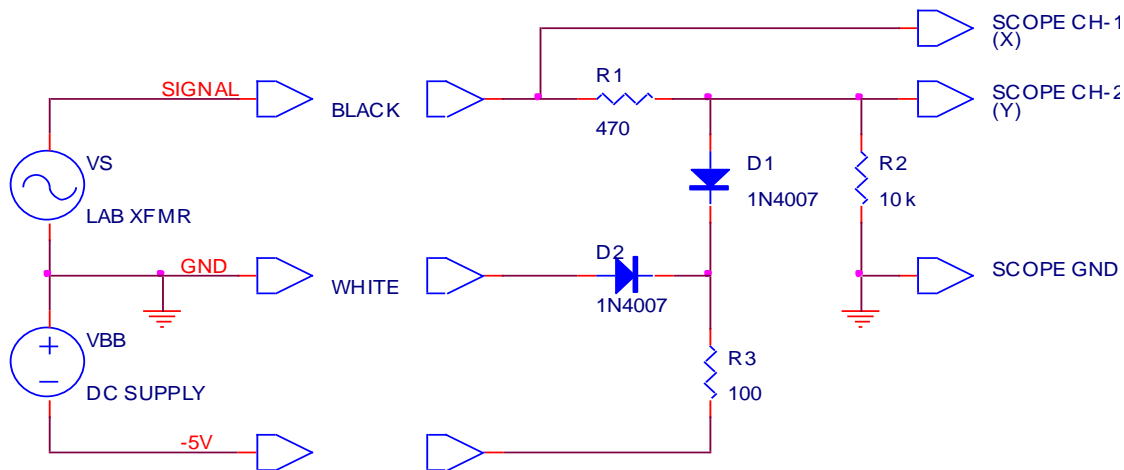

Figure E2.3
**Set-Up** Construct the circuit of Fig. E2.3 using the following components:
Turn the power switch OFF on the lab transformer and plug it into the 120 VAC receptacle. Connect the black and white outputs of the lab transformer, the oscilloscope probes and their grounds as shown in Fig. E2.3. Connect the circuit as shown and set  $V_{BB} = -5.0\ \text{V}$ .